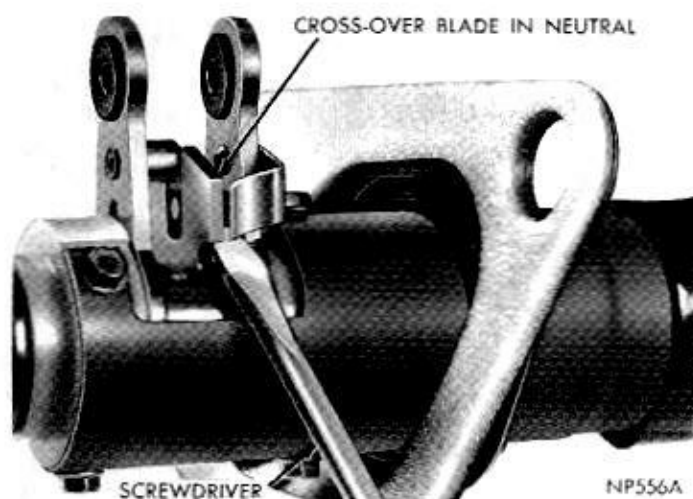

Fig. 44—Holding Crossover Blade in Neutral Position
(4) Place screwdriver or suitable tool between cross-over blade and 2nd-3rd lever at steering column so that both lever pins are engaged by cross-over blade (Fig. 44).
(5) Set 1st-Reverse lever on transmission to reverse position (rotate clockwise).
(6) Adjust 1st-reverse rod swivel by loosening clamp bolt and sliding swivel along rod so it will enter 1st-reverse lever at transmission. Install washers and clip. Tighten swivel bolt to 100 inch-pounds.
(7) Remove gearshift housing locating tool, unlock ignition switch and shift column lever to neutral position.
(8) Adjust 2nd-3rd rod swivel by loosening clamp bolt and sliding swivel along rod so it will enter 2nd-3rd lever at transmission. Install washers and clip. Tighten swivel bolt to 100 inch-pounds.
(9) Remove tool from cross-over blade at steering column and shift through all gears to check adjustment and cross-over smoothness.
(10) Check for proper operation of steering column lock in reverse and second gear positions. With proper linkage adjustment, column should lock in reverse position and should not lock in second position.